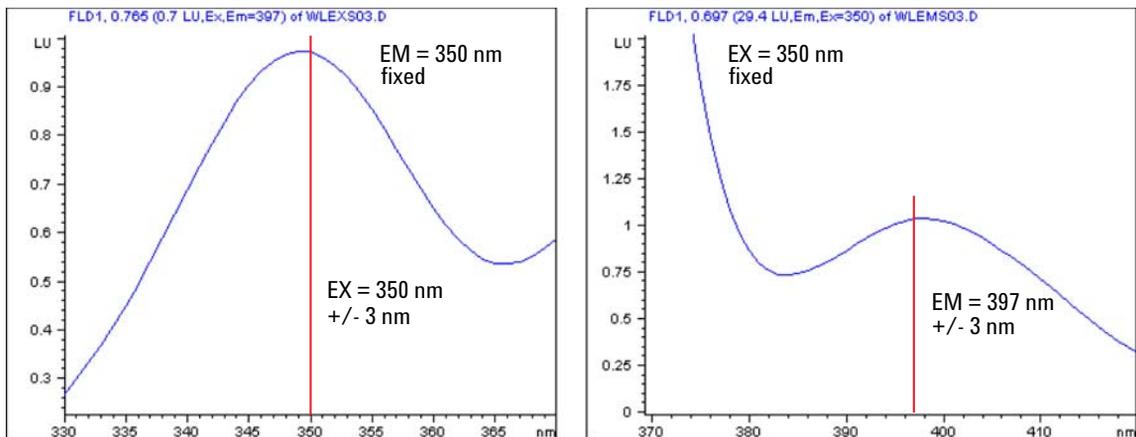

Figure 65 Excitation and Emission Spectrum (expected results)
As result, the maxima should be found at 350 nm \pm 3 nm, see Figure 65 on page 167.
As result, the maxima should be found at 397 nm \pm 3 nm, see Figure 65 on page 167.
- 4 Open the Online Spectra plot and observe the maximum as shown in Figure 65 on page 167 (left).
- 6 Open the Online Spectra plot and observe the maximum as shown in Figure 65 on page 167 (right).